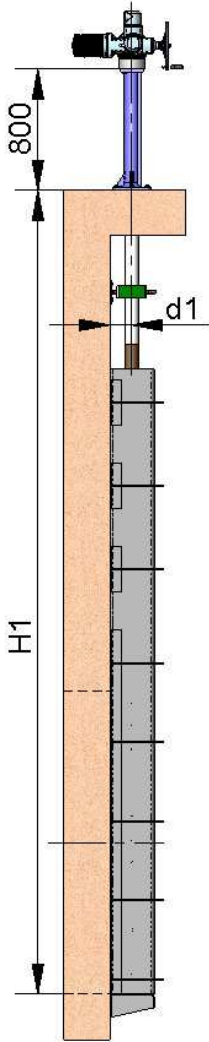

fig. 19
- The standard floor stand is 800 mm high (fig. 19).